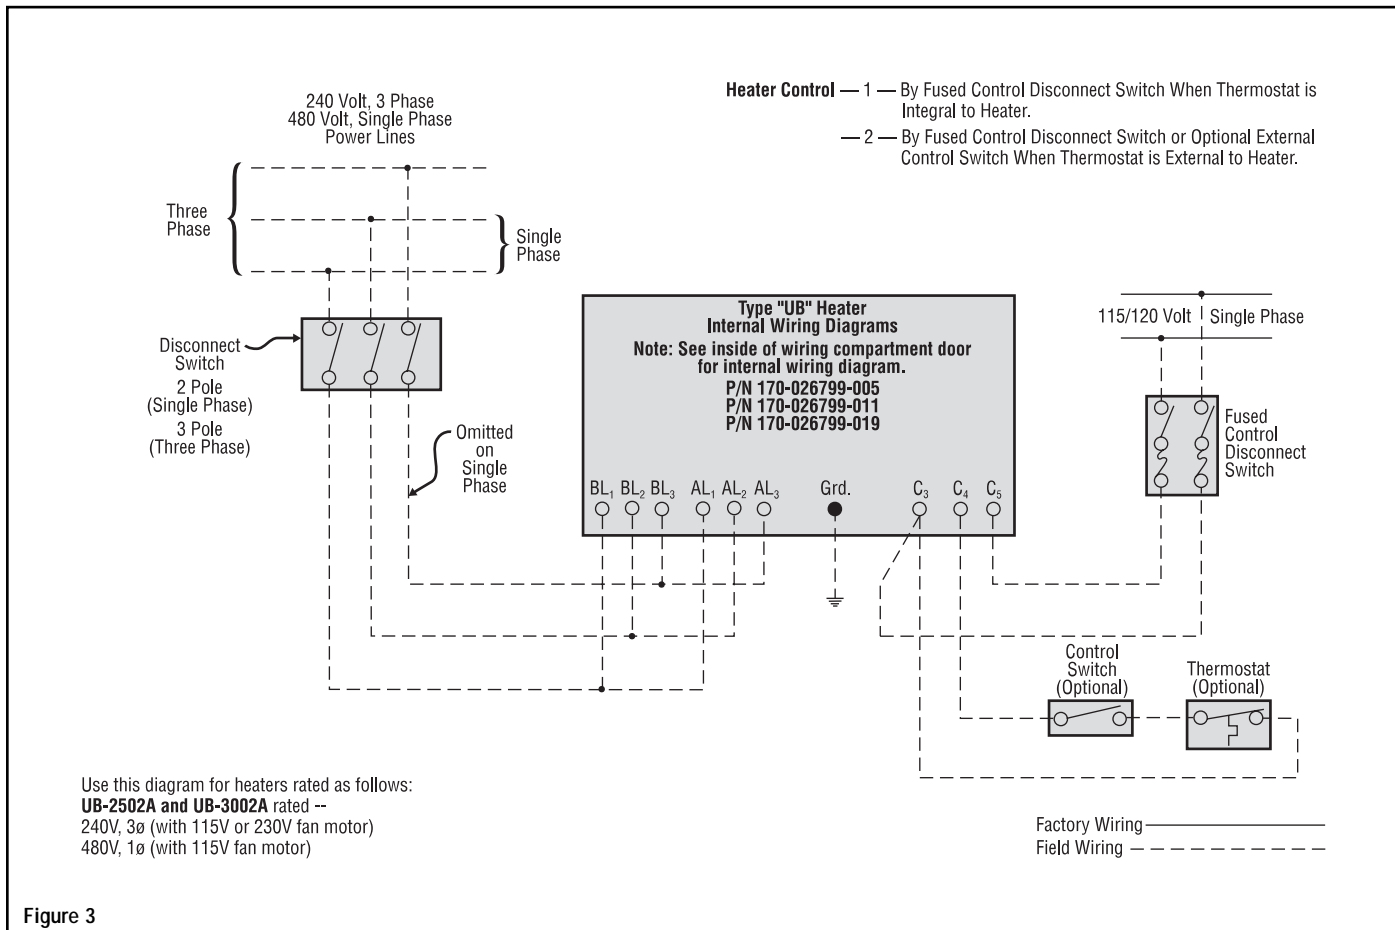

Figure 3
- 1. Connect heater according to the voltage and frequency specified on the nameplate and using the appropriate wiring diagram (Figures 3 thru 11).
- 3. Heaters are not provided with a control switch and should be controlled by externally mounted disconnect switches and/or separately mounted thermostat and control switch as recommended in appropriate wiring diagrams (Figures 3 thru 11). Key to proper wiring diagram is the part number (P/N) of internal wiring diagram located on inside of the hinged cover of the terminal box.